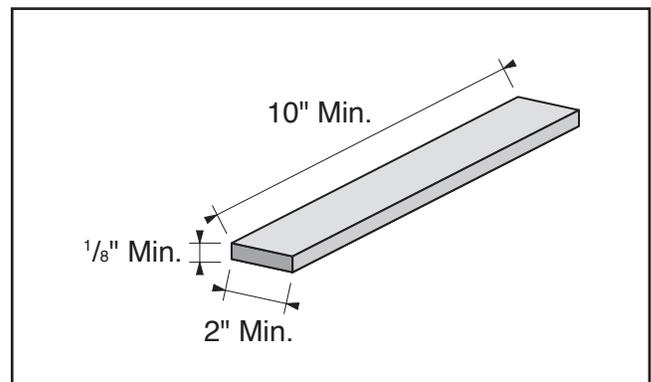

Figure 39. Minimum dimensions for sanding.
- DO NOT sand boards smaller than 10" long, 2" wide, and $\frac{1}{8}$ " thick to prevent damage to the workpiece and the sander (see **Figure 39**).